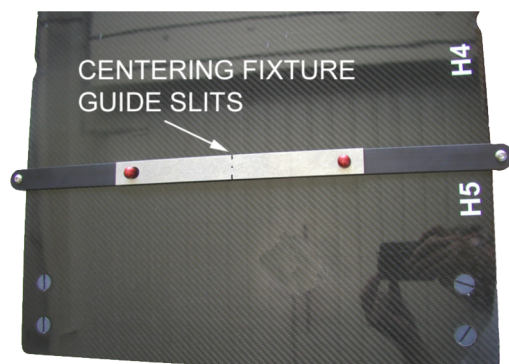

Fig. 21
2. Use the CT Laser Alignment system to determine where the alignment beam hits the Centering Fixture guide slits (Fig. 21). Adjust the gripping eccentrics to center the CT Overlay on the beam (see Section, “Adjust Head End Alignment Eccentrics”).